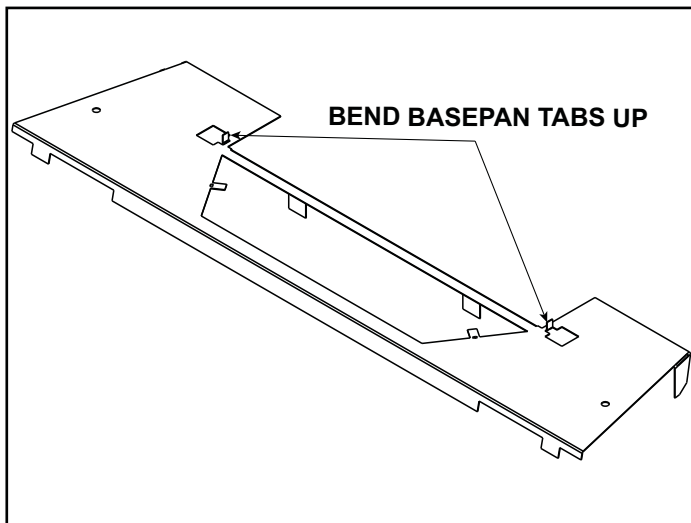
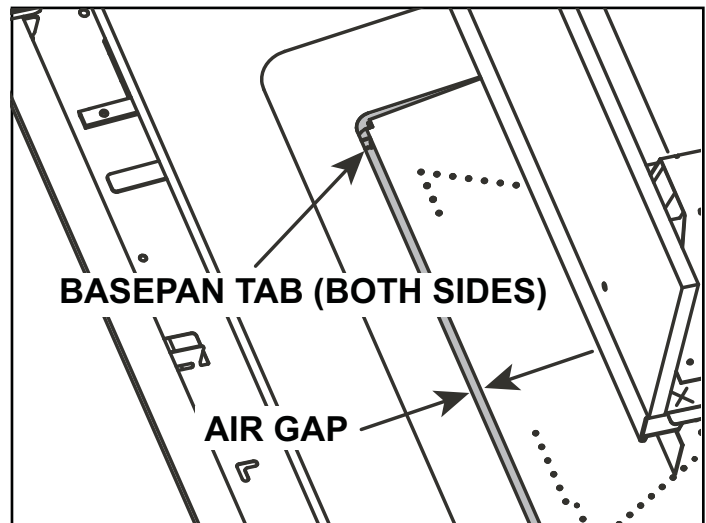

Figure 2 Bend Basepan Tab
Figure 3 Basepan Installed
1. Verify that the basepan is positioned as far forward as possible. Bend the left and right basepan tabs up to 90 degrees as shown in Figure 2. Bending the basepan tabs up creates a necessary air gap between the burner and the base refractory shown in Figure 3. Install base refractory.